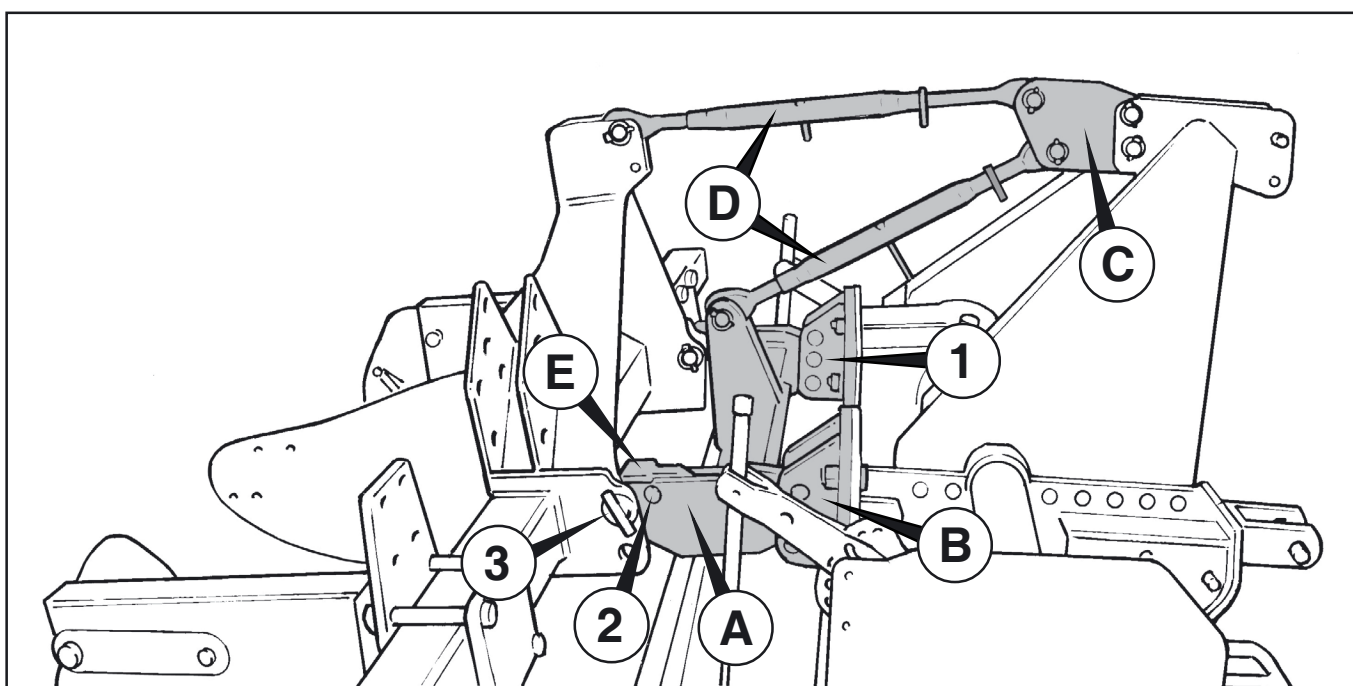

Fig 8
Before coupling to the Bed Tiller the linkage kit should be fitted to the Tiller as shown, Fig 8.
The kit consists of linkage mount frames, Fig 8 (A), mount brackets (B), top link extension brackets (C), top links (D), latches (E), and all necessary pins and bolts.
Fit the pivot pins in either of the 3 height adjustment holes in the mount brackets, Fig 8:1.
Remove the latch retaining bolts, and raise latches ready to mount the Bedmaker, Fig 8:2.
Fit lower link pins to the Bed Maker, in either upper or lower holes, Fig 8:3.